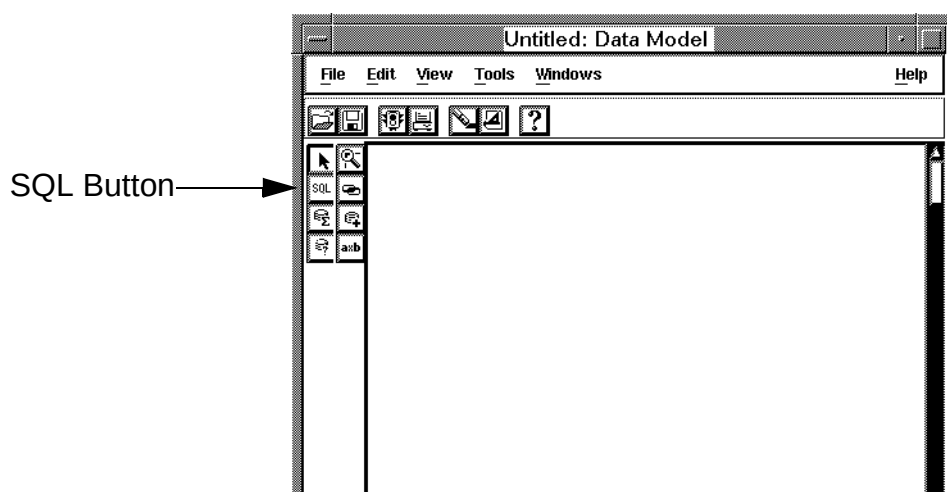

Figure 3-11. Data Model Window
This opens the Data Model window for your new (Untitled) report, Figure 3-11.
2. Click once on the SQL button, Figure 3-11, and then drag the cursor into the work area in the Data Model window.